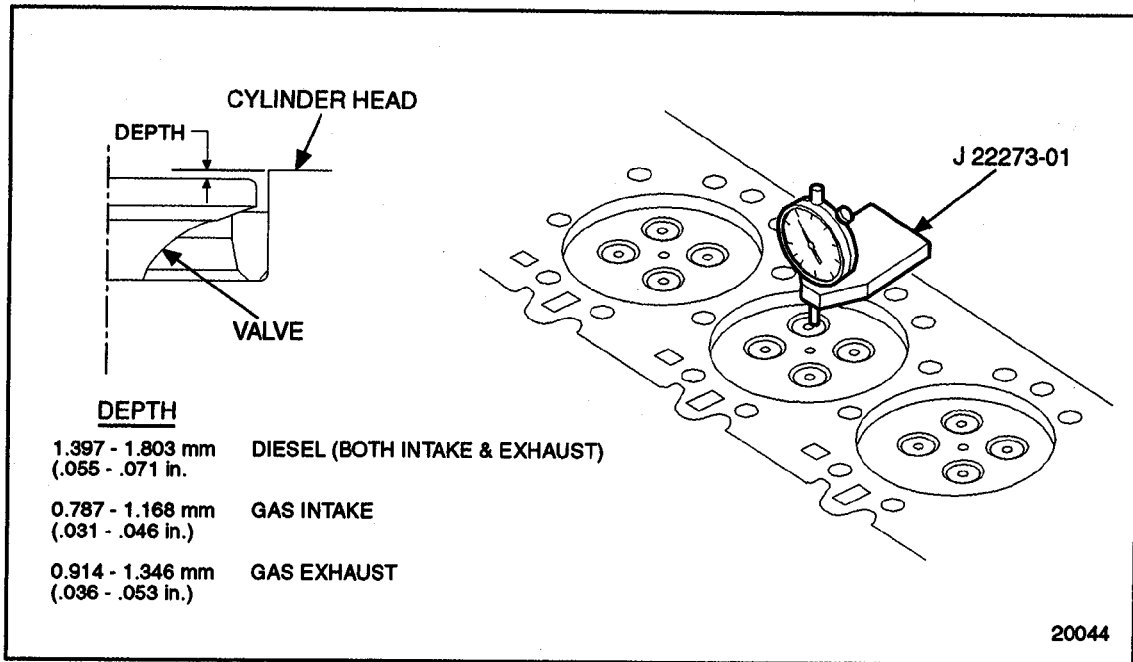

Figure 1-81 Measuring Valve Head Recess Depth
7. The valve head recess depth from the firedeck is increased by valve and/or insert grinding. It should be checked with a sled gage, J 22273-01 (or equivalent). See Figure 1-81.